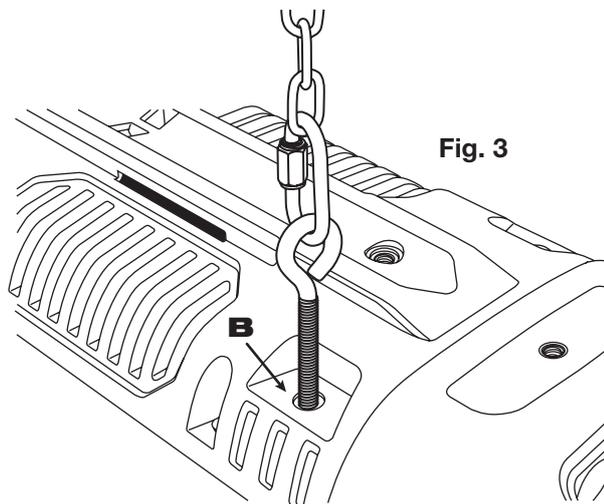

Fig. 3
2. Connect a suitable M6 fixing anchor in all four corners. **Fig. 3**